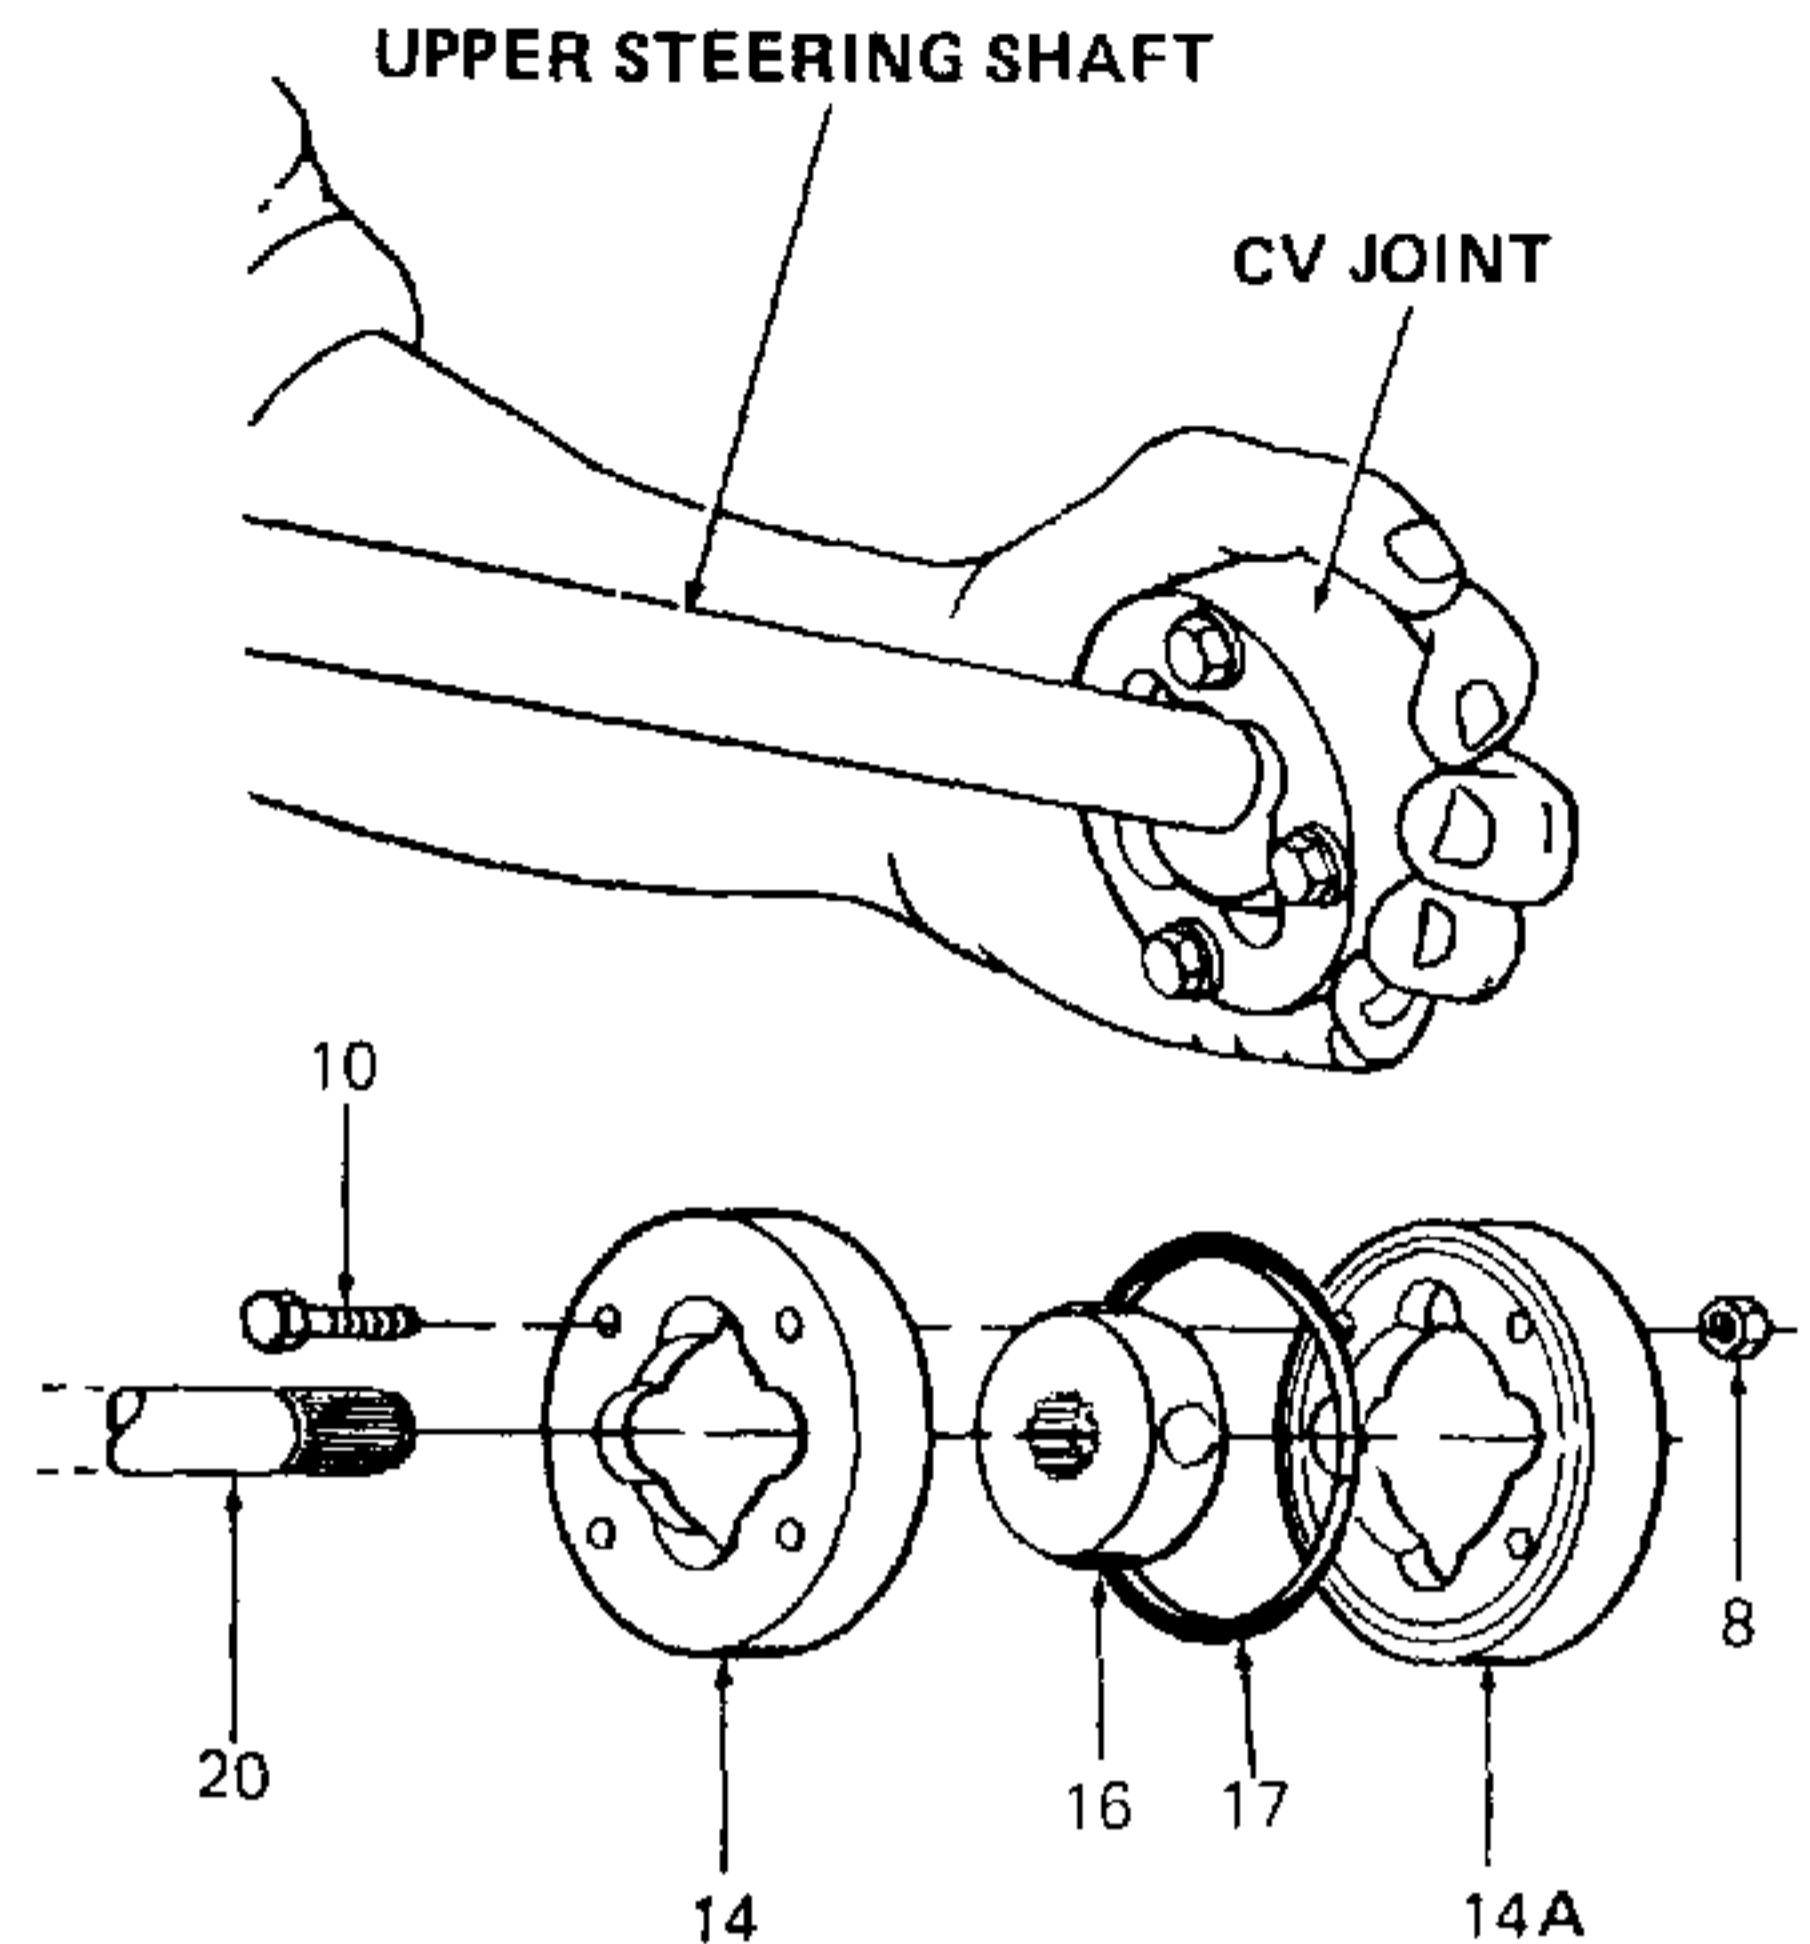

Figure 5-37. Inspecting Drive Hub.
- a. Assemble drive hub (16), upper drive coupling (14), O-ring (17) and lower drive coupling (14A), and firmly secure with four socket head cap screws (10) and nuts (8).
- b. Grasp assembled joint and insert upper steering shaft (20) into drive hub.
- c. Rotate free end of upper steering shaft (20) in an approximate 4-inch circle. Refer to Figure 5-37.